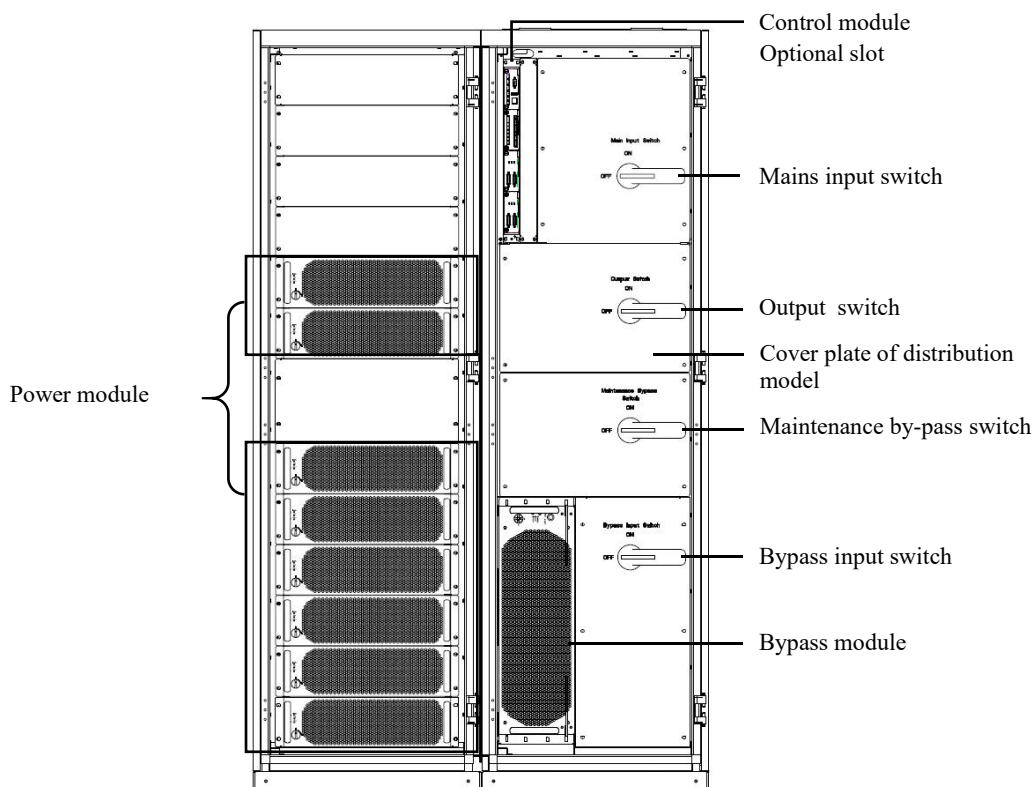

Fig. 1-9 Structure of 400kVA UPS (full-load)
5) The full-load structure of 400kVA UPS is shown in Fig. 1-9 in which the front door of the UPS is opened.